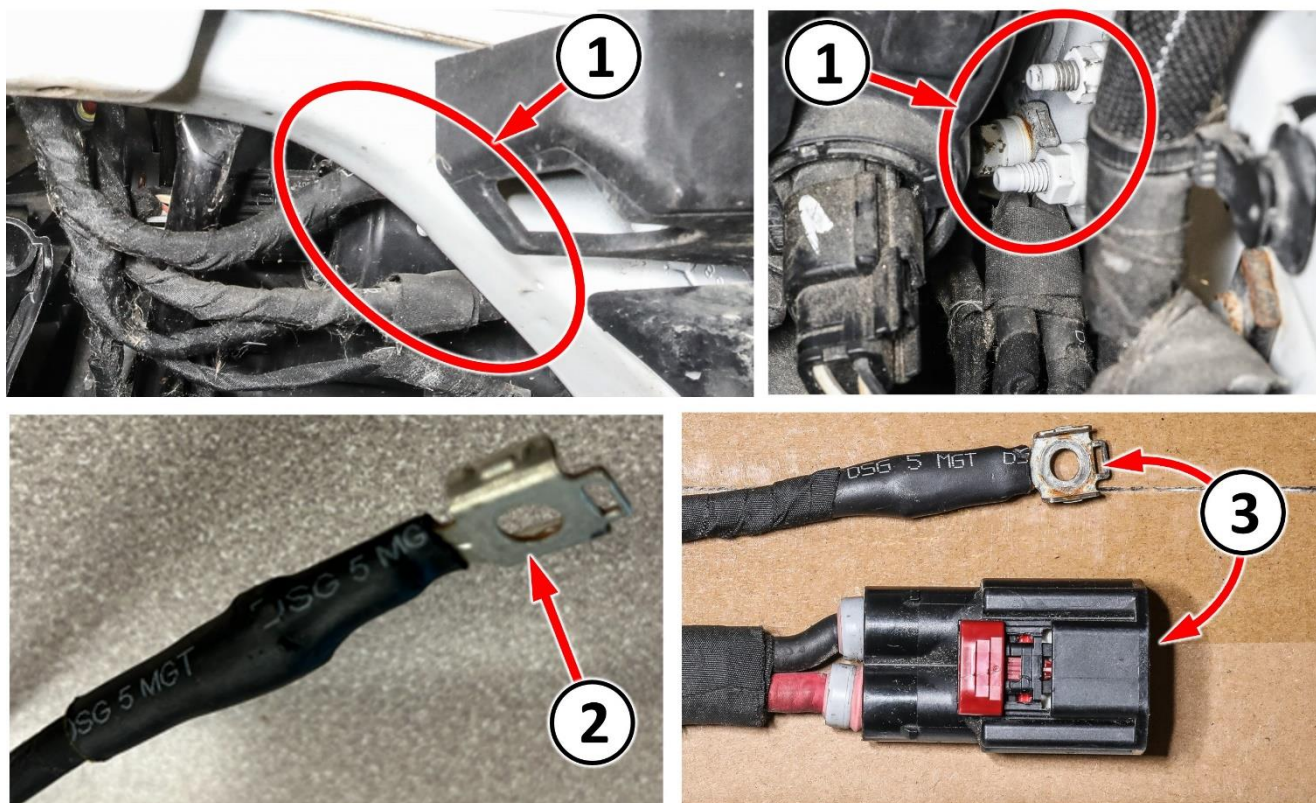

Figure B13 – EHPS ground G908A - Near Right Side Headlamp
31. Verify continuity with multimeter between D6630J eyelet and D2704A connector cavity 2 red wire. Also verify the EHPS power circuit is isolated from the vehicle power circuit (Figure B13). NOTE: If a continuity reading is still present between the EHPS power circuit wire and other vehicle power circuits, the wrong wire has been selected.